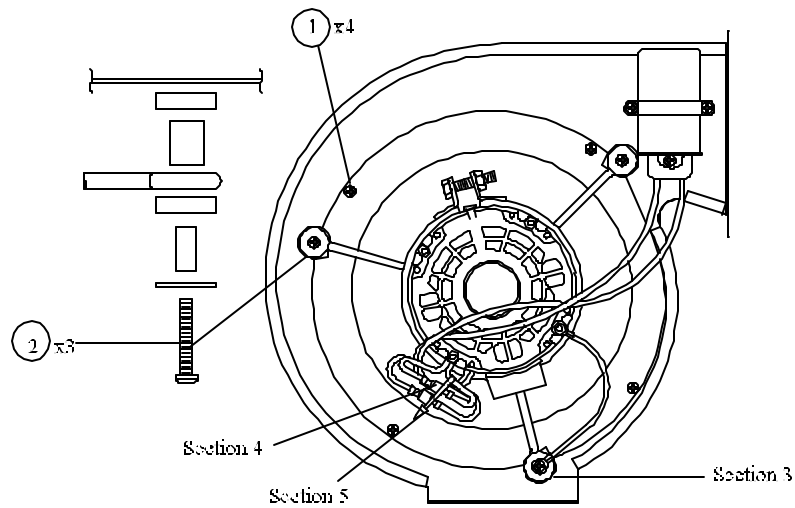

FIGURE 7
3. Remove 4 screws from venturi (See #1, Figure 7).
4. Remove 3 screws from motor mount bracket (See #2, Figure 7).
- Note: Upon reassembly, the references made on Figures 7 and 8 shall be used for proper reassembly.